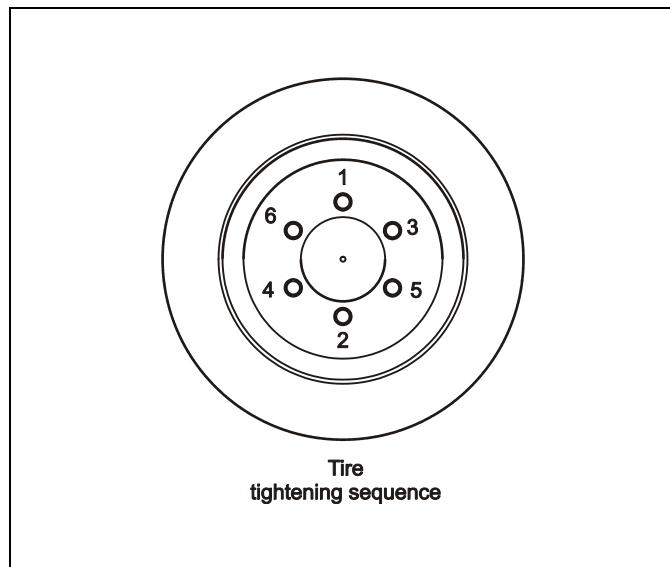

Figure 2-2 Tire Tightening Sequence
4. Make sure drive wheel nuts are tight. Tighten the wheel nuts in a criss-cross pattern to a correct torque value (225 ft. lbs (300 Nm)). (See Fig. 2-2)
8. Install tire/hub assembly onto the truck and torque lug nuts to 225 ft. lbs. (305 Nm.) in a cross-cross pattern. (See Figure 2-2).